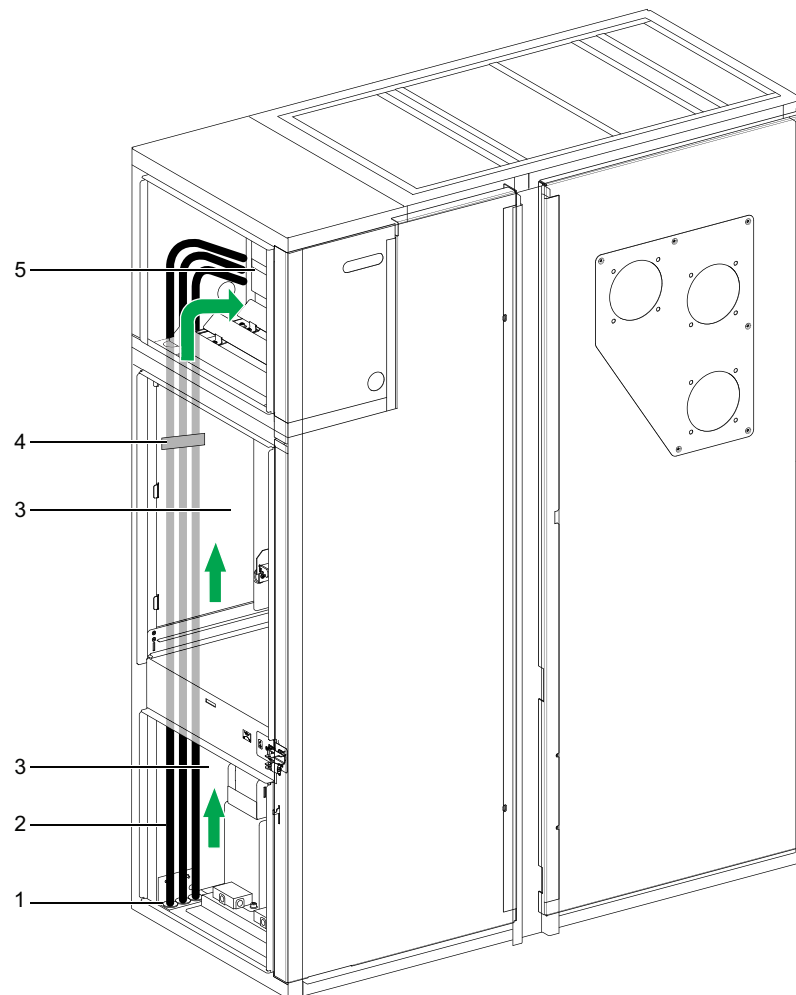

Figure 52
1. Remove the metal cable duct covers (1) on the left inside of the cubicle (Figure 52).
2. Route external cables (2) from the cable basement through the gland plate neck ring (3) in the cubicle floor and route them in the cable duct to the LV compartment.
3. Fasten the external cables (2) to the cubicle using cable clamps (4).